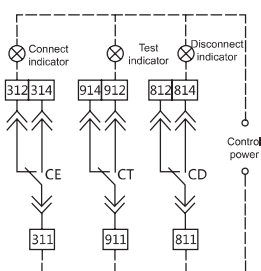
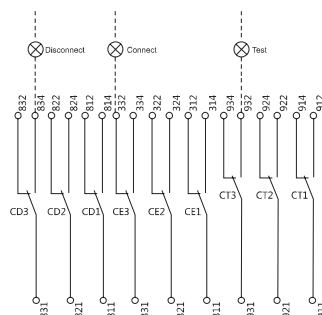

Fig. 5 Three-position indicator signal wiring diagram
Fig. 6 Multiple sets of three-position indicator signal (only for 1000AF/1600AF/4000AF)
- Optional accessories for drawer type. Two disconnection indicating contact (CD), one test indicating contact (CT), and three connection (CE) indicating contact are provided for 1000 frame and 1600 frame; three CDs, three CTs, and three CEs are provided for 4000 frame; those accessories shall be purchased separately, and their numbering sees Fig. 6.
- When the circuit breaker is in the Connect position, its wiring diagram is illustrated in Fig. 5 (those in the dashed box are connected by user); multiple sets of three-position indicating signals are illustrated in Fig. 6.